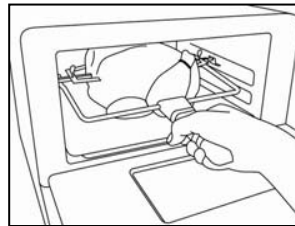

Fig. 3
9. Place the rotisserie skewer with the roast or chicken onto the rotisserie handle. (Fig. 3)